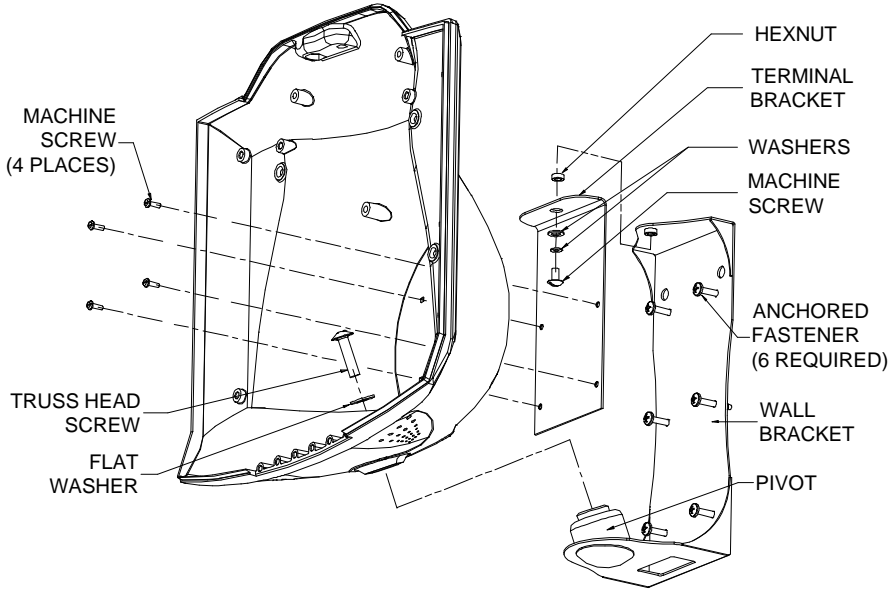

FIGURE 5 - SWIVEL BRACKET MOUNTING OF TERMINAL
2. Attach the terminal bracket to the wall bracket by installing the machine screw (1/4 - 20 x 1/2 L) and 2 washers (.75 T x 1/2 ID x 7/8 OD and .83 T x 7/16 ID x 7/8 OD) up through the hole in the wall bracket and then through the tab in the terminal bracket as shown in Figure 5. The washer with the larger inside diameter must be closest to the bracket. Make sure that the washers are centered and then loosely tighten the machine screw. Install the hexnut to secure the bracket, and then fully tighten the machine screw and hexnut.
5. Attach the terminal to the terminal bracket using the 4 supplied machine screws (8 - 32 x 1/2 L) as shown in Figure 5.
6. Secure the bottom of the terminal to the bracket by installing the truss head screw (3/8 - 16 x 3/4 L) and flat washer (.083 T x 7/16 ID x 7/8 OD) through the terminal and into the pivot on the wall bracket as shown in Figure 5.